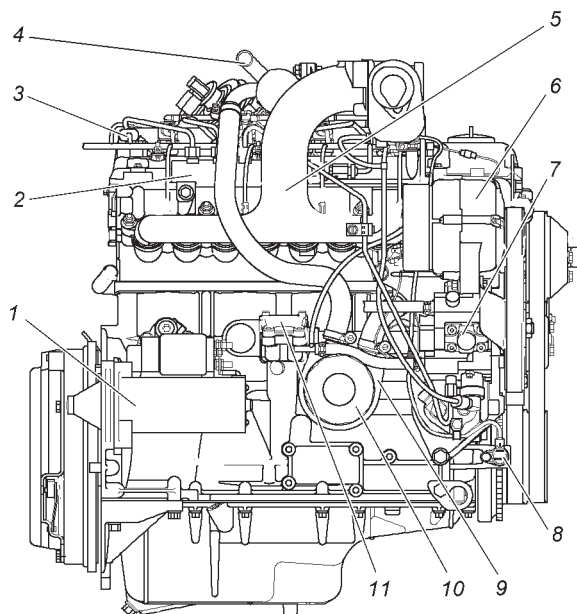

Fig. 9.12. ZMZ-51432 engine (right-side elevation):
- replace oil filter 10 (see Fig. 9.12);